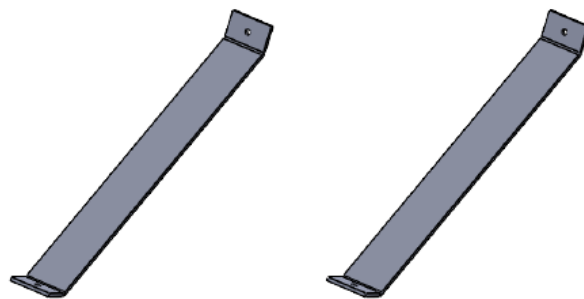

Figure 2: Stabilizer Brackets
- c. Stabilizer Bracket (2) - found in the middle shock absorber or taped to inside of the cardboard crate: see *Figure 2: Stabilizer Brackets*.